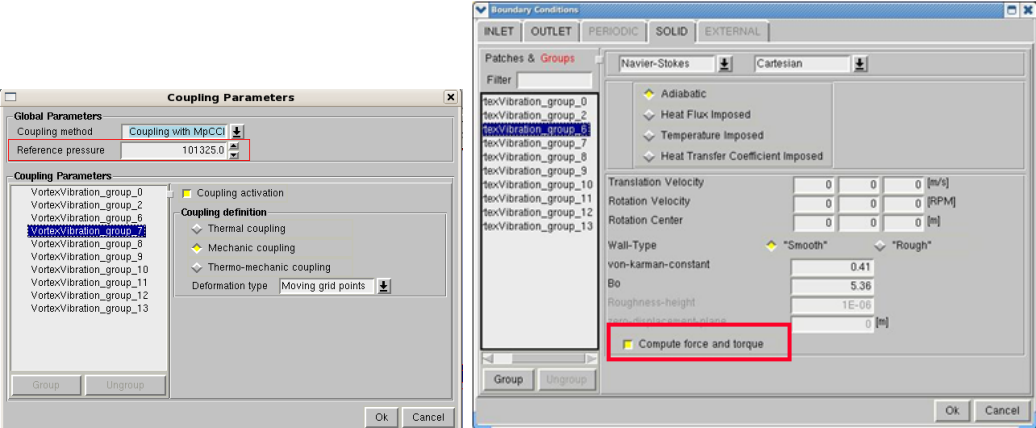

Figure 4: Setting a reference pressure and Force and Torque in FINE/Open GUI
- the definition of the reference pressure and the activation of the Force and Torque Figure 4.